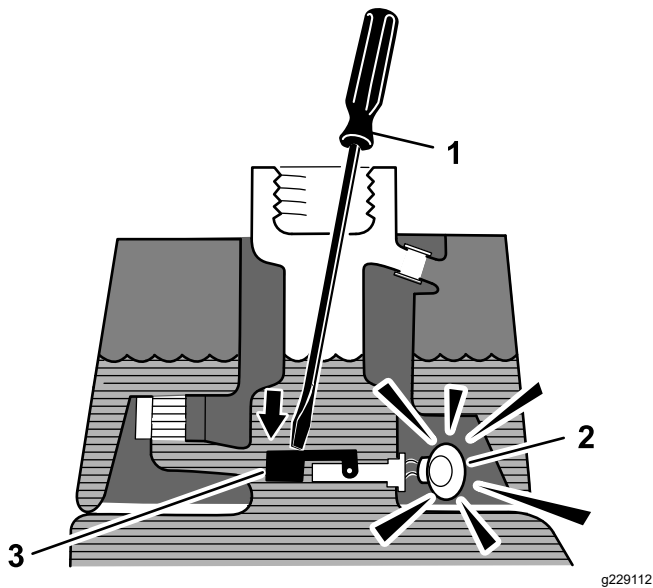

Figure 51
3. Insert a clean rod or screwdriver into the tank neck and gently push down on the float switch (Figure 51); the alarm should sound after the 1-second delay.